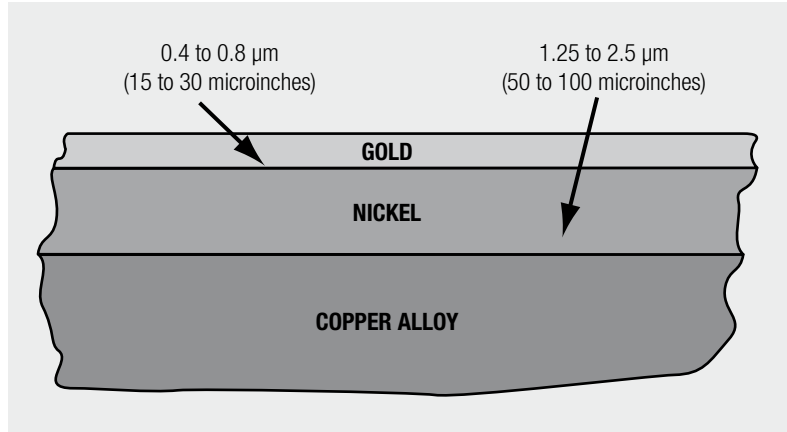

Fig. 2.1: Noble metal contact finish
Figure 2.1 schematically illustrates a cross section of a noble metal finish. The noble metal surface plating is usually gold. In computer/telecom applications the gold is typically electroplated to thicknesses of the order of 0.4 to 0.8 μm (15 to 30 microinches). The gold plating used in connectors is typically a “hard” gold. Hard golds are lightly alloyed, 0.1 percent, with cobalt, nickel or iron, with cobalt being the most common. There is an alternative noble metal finish using palladium alloys. The most common palladium alloy is palladium (80)-nickel (20) with palladium (80)-cobalt (20) also used. In this case the bulk of the plating thickness is palladium alloy, but the surface plating may be a gold flash. A flash is a thin plating of the order of a tenth of a micron (4 microinches) in thickness.